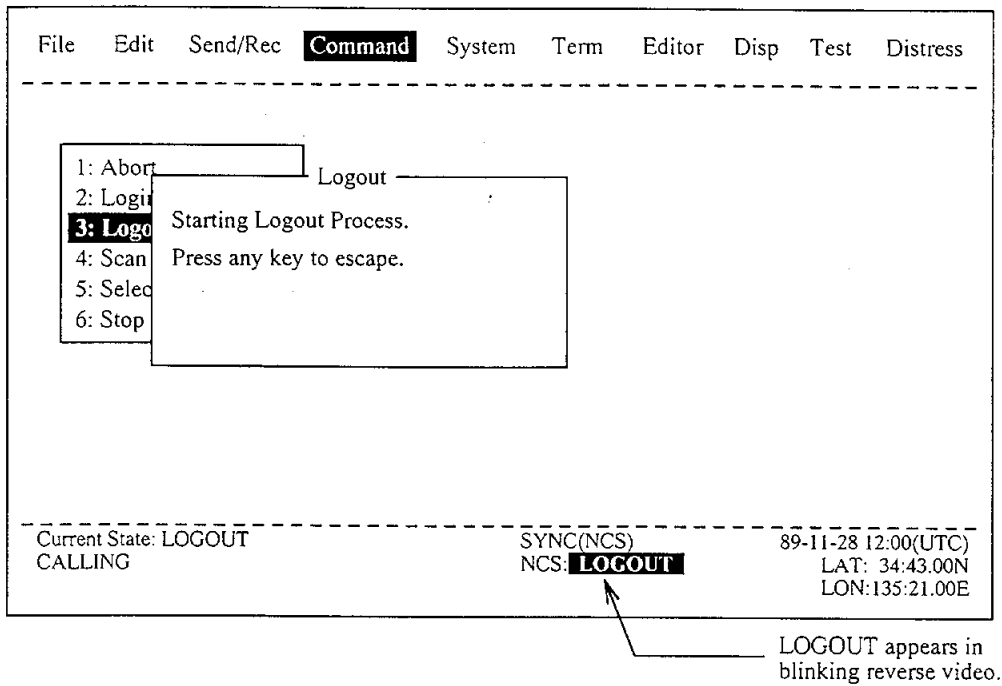

Figure 2-8 Appearance of Display Screen During Logout
3. Press the **Enter** key to start logout, or select No and press the **Enter** key to escape. Logout begins and the screen now looks something like Figure 2-8.